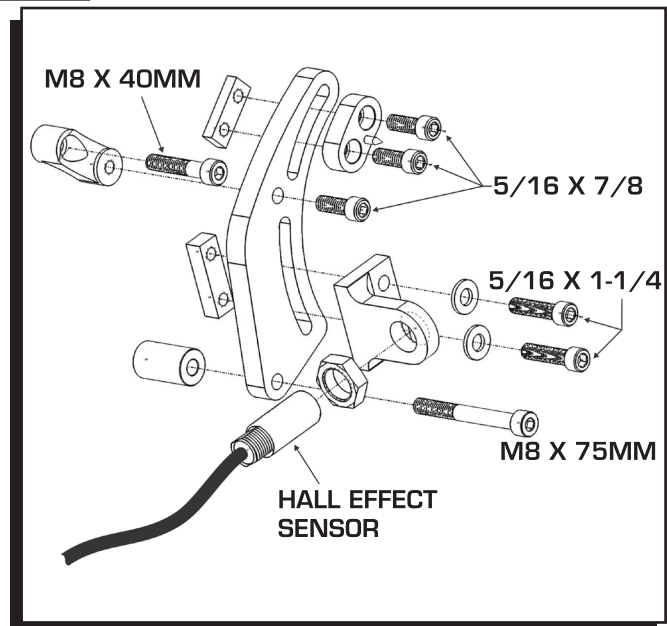

Figure 1. Pickup Bracket Assembly.
1. Mount the pickup holder and pointer assembly onto the bracket using the two 5/16x1 1/4" bolts and two 5/16 x 7/8" bolts. (Figure 1). This kit is reversible and can be mounted on either side of the of the damper.